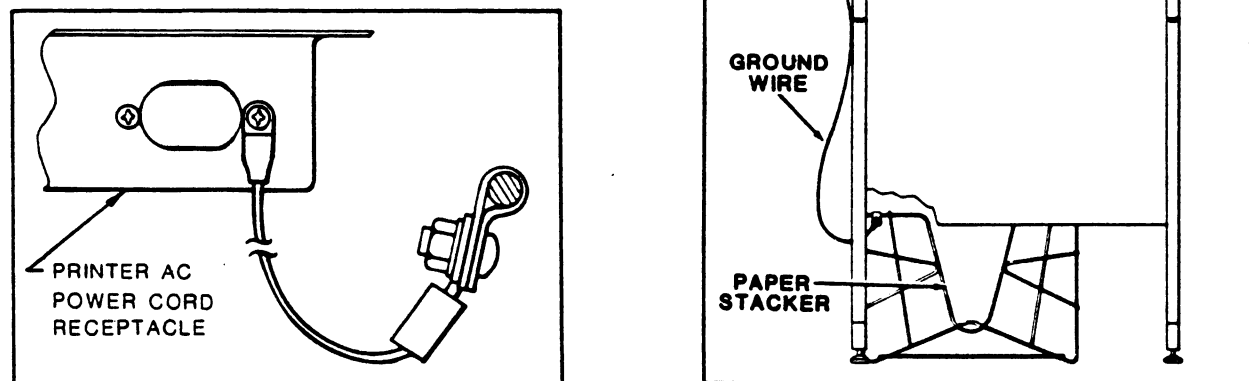

FIGURE 7-4.
4. Position the metal paper stacker at the rear of the printer. Be sure to attach the ground wire between the paper stacker and printer rear panel. (Figure 7-4.)
If a paper stacker is used, position it behind the printer. Be sure to connect the groundwire shown in Figure 7-4.